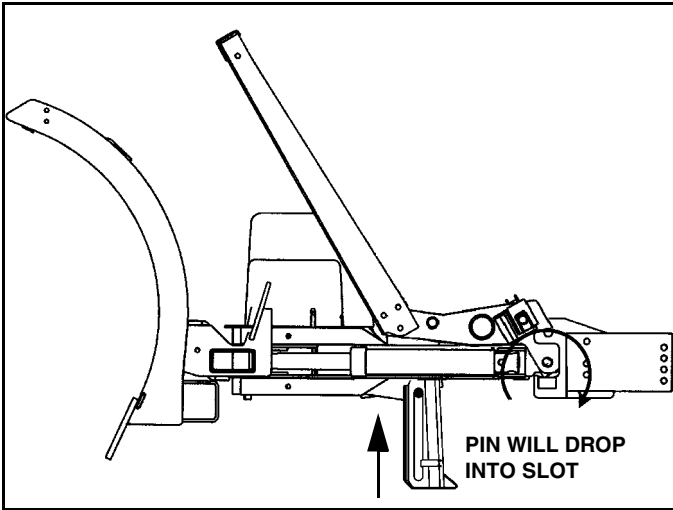

Figure 1-2
3. Rotate light/lift bar into position by turning on down pressure and pressing the lower button. (See Figure 1-2).